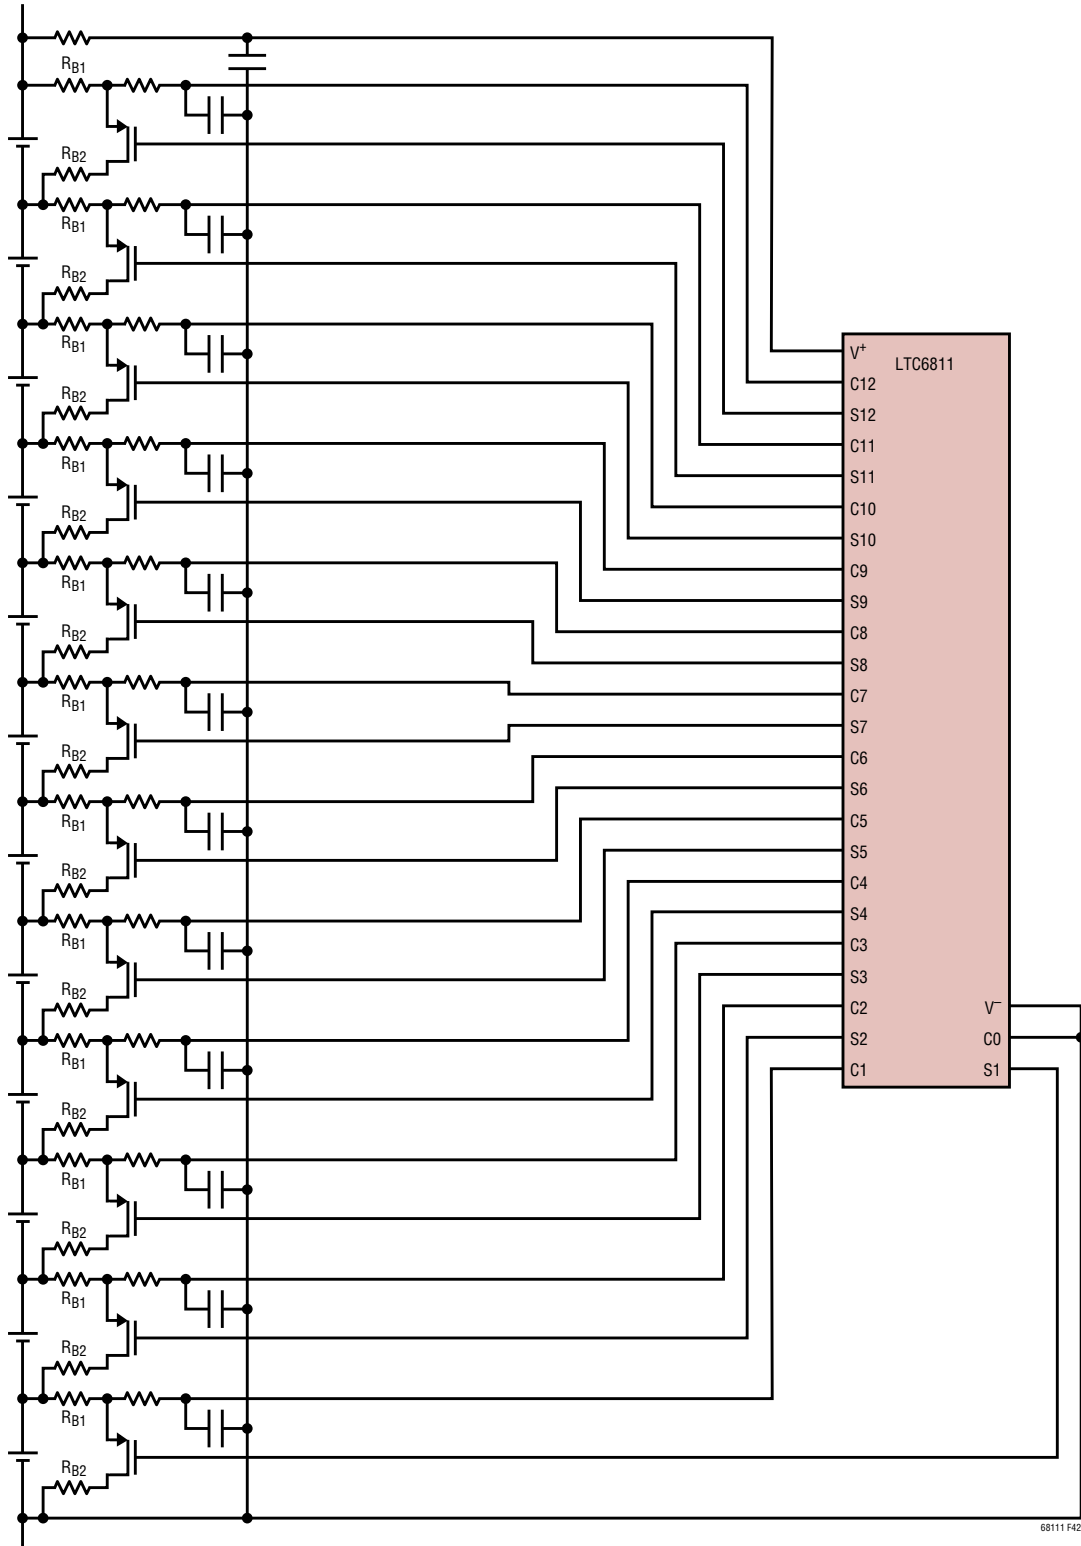

Figure 42. Balancing Self Test Circuit
The functionality of the discharge circuits can be verified by conducting cell measurements. As shown in Figure 42, a resistor between the battery cell and the source of the discharge MOSFET will cause a decrease in cell voltage measurements. The amount of this measurement decrease depends on the resistor value and the MOSFET on resistance. The following algorithm can be used in conjunction with Figure 42 to verify each discharge circuit:
18. Compare new readings with old readings. Each cell voltage reading should have decreased by a fixed percentage set by  $R_{B1}$  and  $R_{B2}$  (Figure 42). The exact amount of decrease depends on the resistor values and MOSFET characteristics.